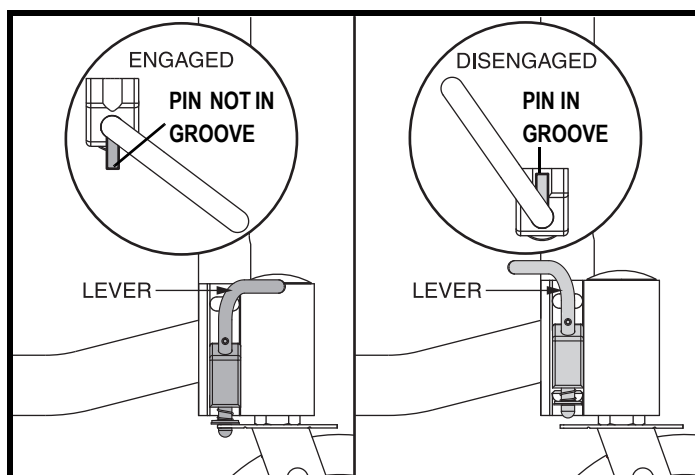

Figure 14. Caster Pin Lock Operation
1. Rotate the lever so that the securement pin is not in the groove to engage the caster pin lock. See **figure 14**.
2. Rotate the lever so that the securement pin is securely in the groove to disengage the caster pin lock. See **figure 14**.